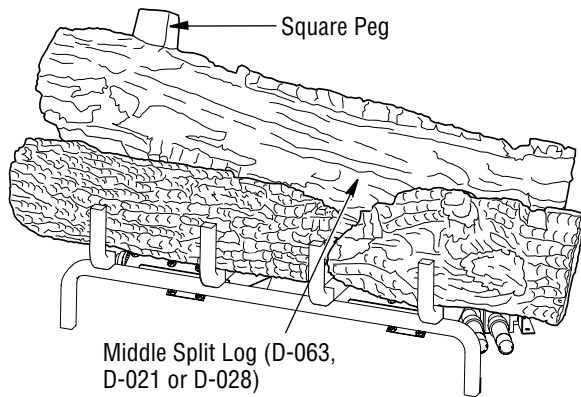

Figure 20 - Installing Middle Split Log (D-021)
- Find the middle split log (SouthernComfort24 and ShadyHollow24 models: D-063, SouthernComfort30 and ShadyHollow30 models: D-021, SouthernComfort36 and ShadyHollow36 models: D-028). See **Figures 20 and 20A**. The split side of the log faces forward. The log has a notch that fits around the burner tube on the right side. The left side of the burner tube fits into the notch on the back side of this log. The log is placed properly when it sits parallel to the tube burner and the square peg is pointing up. See figures for reference.